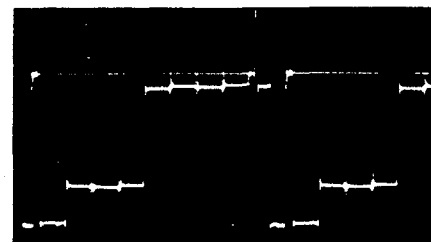

Fig. 23-3
7. Adjust RV4 and RV5 of BG board so that the INPUT waveform becomes flat as shown in Fig. 23-3.